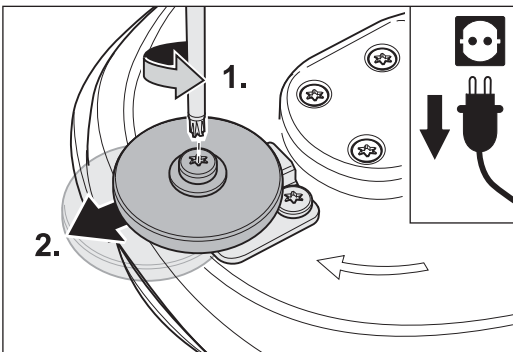

Fig. 64 Undo the screw (1.) and push the wall-protecting roller (2.).
- 3 Undo the screw in the middle of the wall-protecting roller with the universal spanner (Fig. 64, 1.) and push the wall-protecting roller into the front position (Fig. 64, 2.).
- 3 Use the universal spanner to undo the screw in the middle of the wall-protecting roller (Fig. 64, 1.).